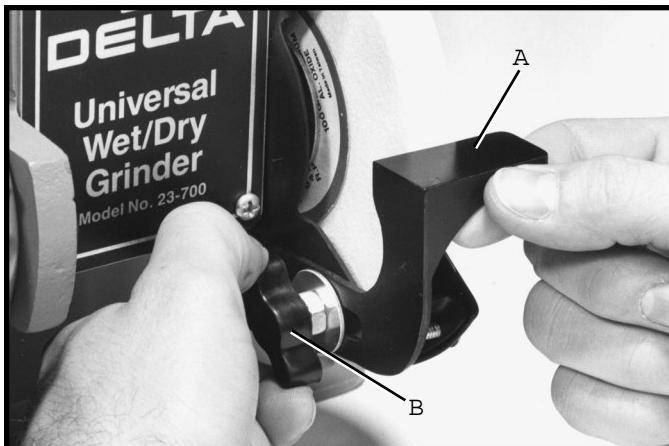

Fig. 6
2 The tool rest (A) Fig. 6, is adjustable so it can be positioned as close to the grinding wheel as possible giving maximum support to the piece that is being ground, by loosening lock knob (B), moving tool rest (A) to the desired position and tightening lock knob (B). As the grinding wheel wears down to a smaller diameter, re-adjust the tool rest closer to the wheel. The tool rest (A) should be adjusted so it is set a little below the center of the wheel. This is the most practical and safest position for general work. Free hand grinding without the use of the tool rest should always be done on the lower quarter of the wheel.